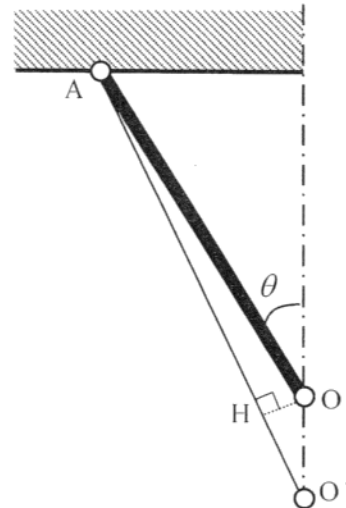

Figure 1-5
Let σ_1 be the axial stress of bar ①, and σ_2 the axial stress of bar ②. Due to the bar structure symmetry with respect to the vertical axis, $\sigma_1 = \sigma_2$. We can derive $P =$ (a) from the equilibrium condition in the vertical direction at the point O, so that, we can obtain $\sigma_1 = \sigma_2 =$ (b). Denoting the axial elongation of bar ① caused by the stress as δ_1 , $\delta_1 =$ (c) is derived. Assume that the point O shifts to O' due to the elongations of bars ① and ②, as shown in Figure 1-5. Let the perpendicular line to AO' be OH, then the length O'H is